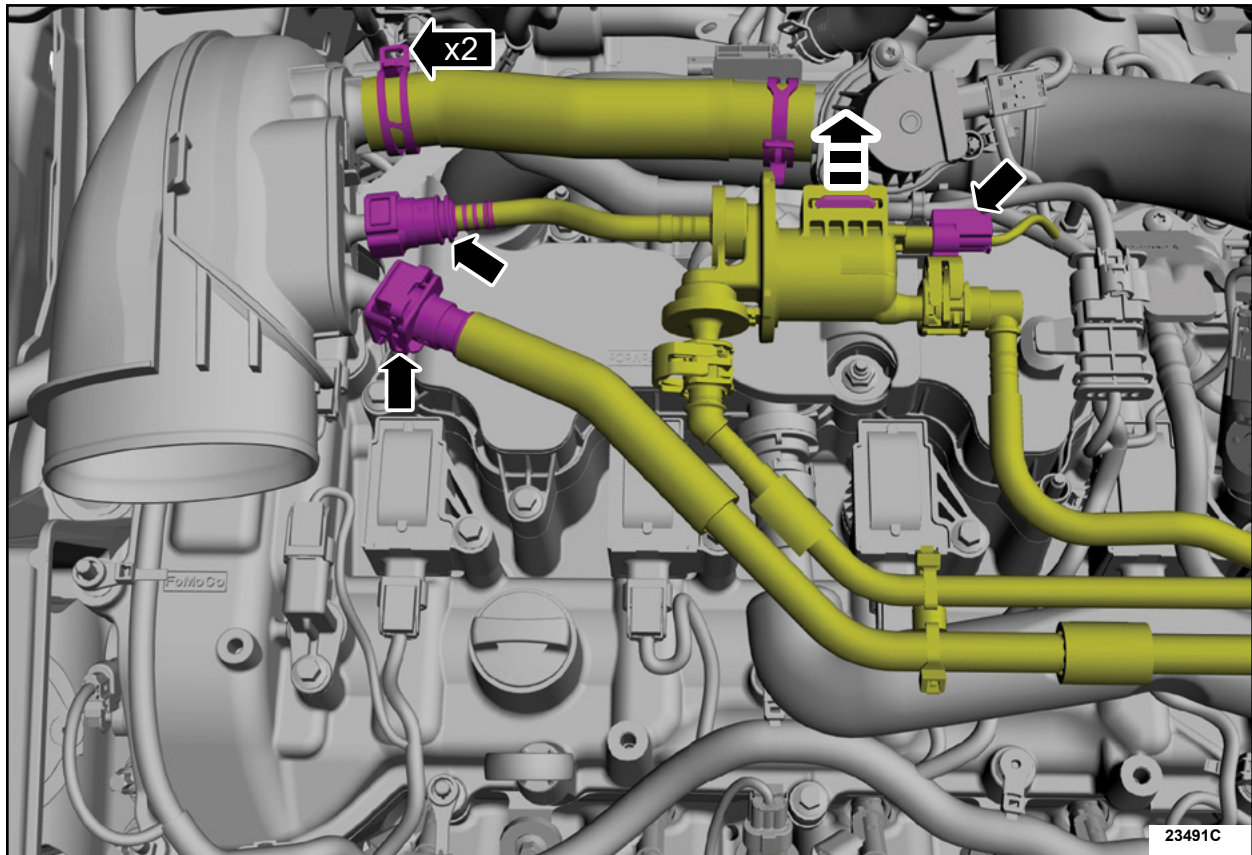

FIGURE 2
3. Disconnect quick release couplings. See Figure 2.
4. Position aside fuel vapor hose assembly. See Figure 2.
5. Loosen the clamps and remove the air bypass tube. See Figure 2.